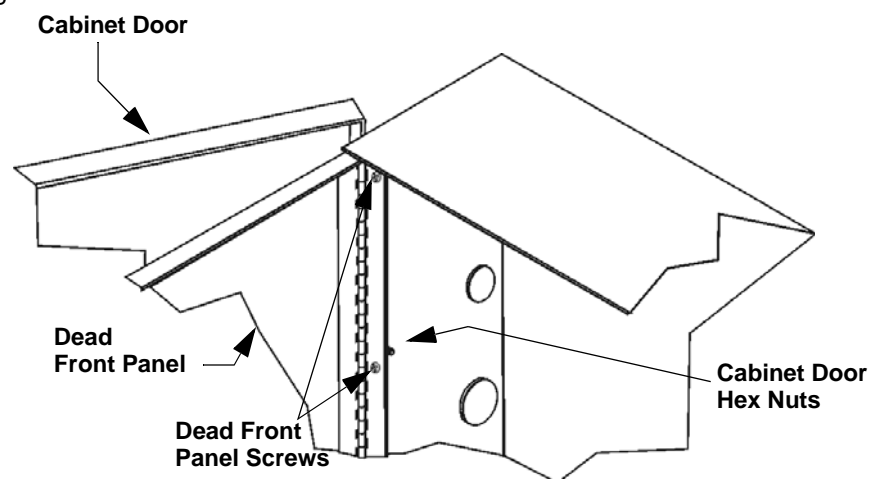

Figure 3-11 Cabinet Door and Dead Front Panel Removal
- Using a Phillips head screw driver, remove the six screws that hold the dead front panel in place. See Figure 3-11.
- Using a 1/4" Hex drive, remove the six Hex nuts that hold the cabinet door in place. See Figure 3-11.